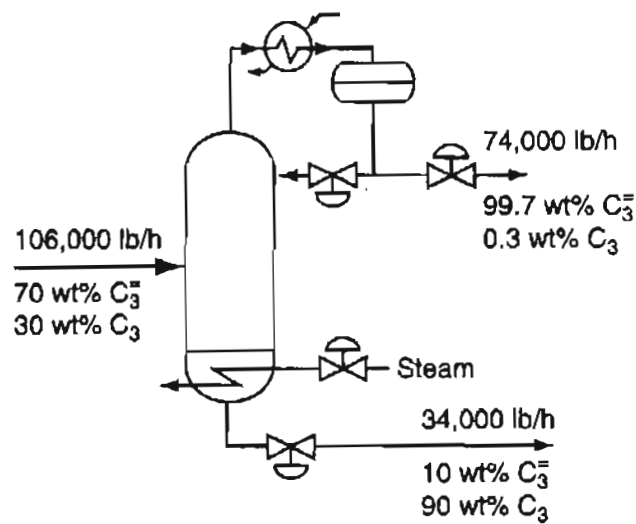

Figure P6.6
- *6.6** Distillations columns are used to separate light boiling components from heavier boiling components, and make up over 95% of the separation systems for the chemical process industries. A commonly used distillation column is a propylene-propane splitter. The overhead product from this column is used as a feedstock for the production of polypropylene, which is the largest quantity of plastic produced worldwide. Figure P6.6 shows a diagram of a propylene-propane splitter (C_3 refers to propane and $C_3^=$ refers to propylene). The steam is used to provide energy, and is not involved in the process material balance). Assume that the composition and flow rates listed on this diagram came from process measurements. Determine if the overall material balance is satisfied for this system. Evaluate the component material balances as well. What can you conclude?